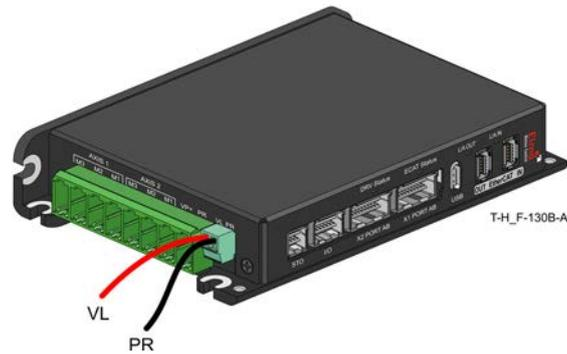
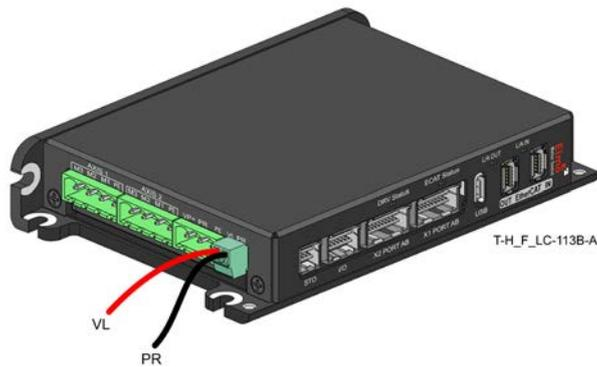

Figure 31: Connecting the Control Supply Wires for High Current Model
Figure 32: Connecting the Control Supply Wires for Low Current Model
3. Connect the VL and PR wires to the terminals on the servo-drive as shown in Figure 31 and Figure 32.